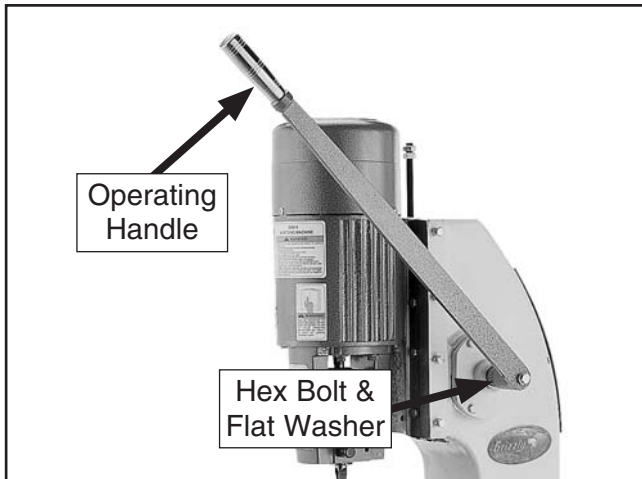

Figure 9. Operating handle correctly installed.
1. Remove the hex bolt and flat washer securing the operating handle to the pivot axle, then remove the handle (see **Figure 9**).